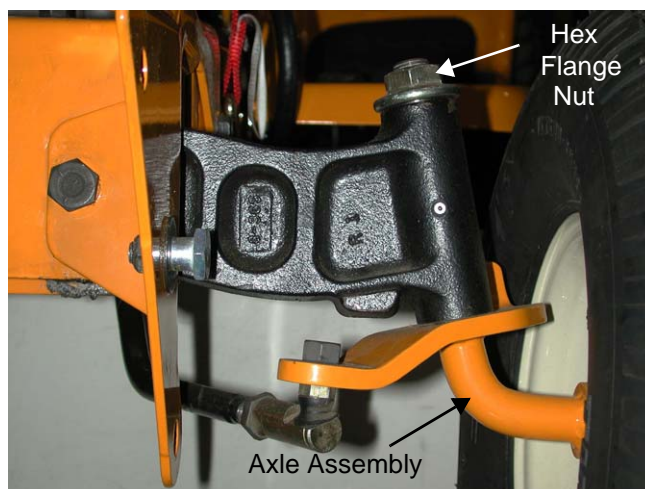

Figure 37.10
- 37.10. Loosen the large hex flange nut securing the left axle assembly to the pivot bar using a 15/16" socket. See Figure 37.10.